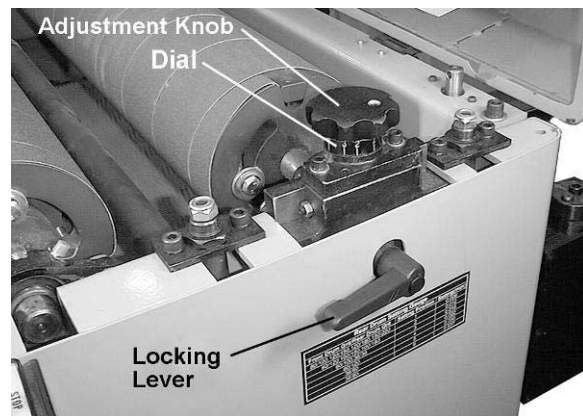

Figure 8
1. Loosen the locking levers (Fig. 8) on both sides of the machine by rotating them counter-clockwise.
4. Tighten the locking levers (Fig. 8) by rotating clockwise, before operating the sander.